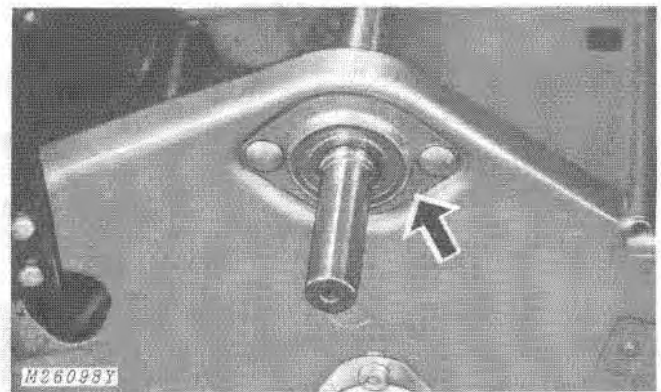

Fig. 8-Secondary Shaft Left-Hand Bearing
5. Remove left-hand bearing, Fig. 8.